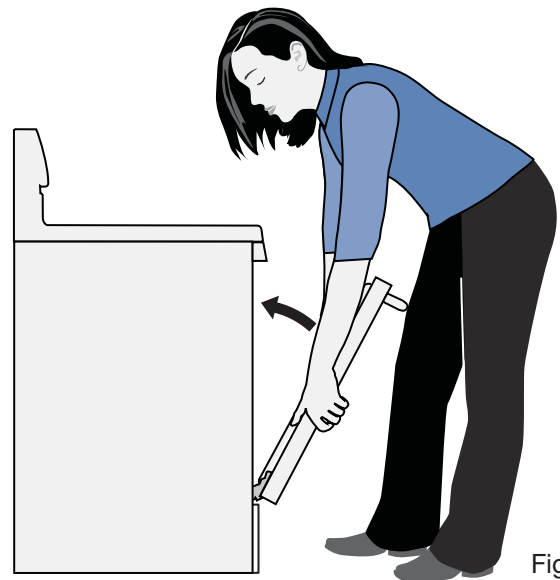

Fig. 3
5. Carefully lift door away evenly, slightly up and out until both hinge arms are clear of the hinge slots in the oven frame *-Fig. 3-*. After door has been removed, be sure to lay the door flat with the inside of the door downward (never rest the oven door with any weight on the door handle).